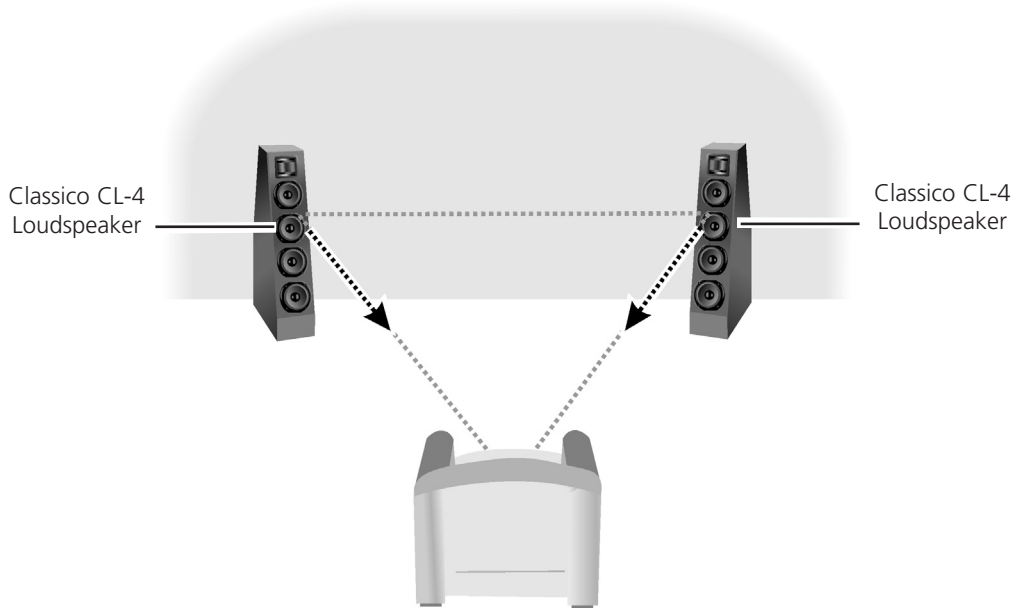
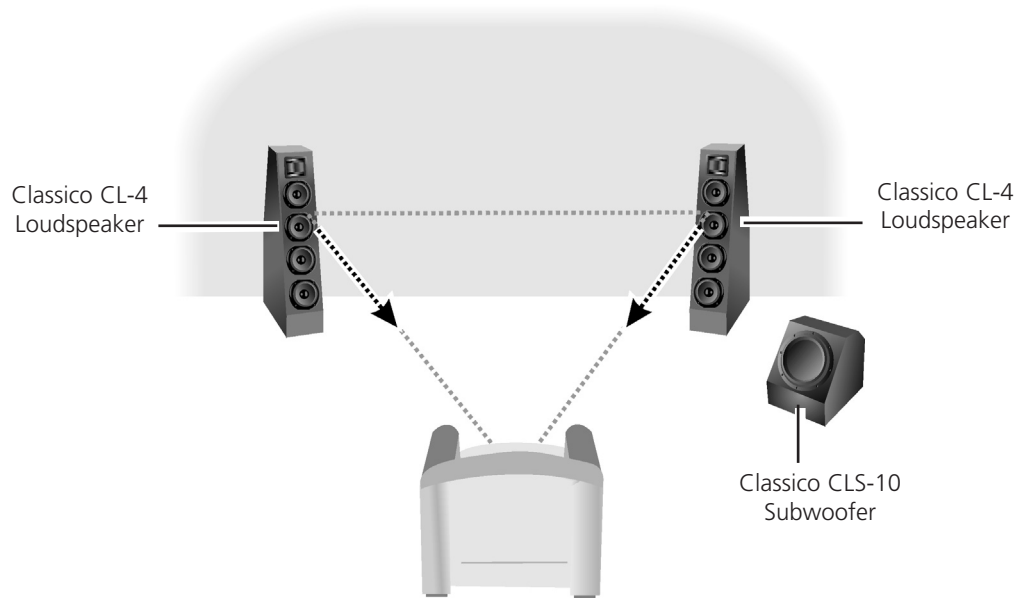

Figure 2. Example of a Stereo (2.0 Configuration) Setup
Figure 3. Example of a Stereo with Subwoofer (2.1 Configuration) Setup
If the setting lends itself, try positioning the left and right front speakers at the opposite ends of the base of an equilateral triangle whose tip is at the prime listening position (Figure 2). General guidelines suggest a 30- to 45-degree angle from the prime listening position to the left and right front speakers, which is particularly for good stereo reproduction.
**System Examples:** An example of a stereo (2.0 configuration) setup using two Classico CL-4s is shown in Figure 2. A stereo system with a subwoofer (2.1 configuration) setup using two Classico CL-4s and a Classico subwoofer is shown in Figure 3.